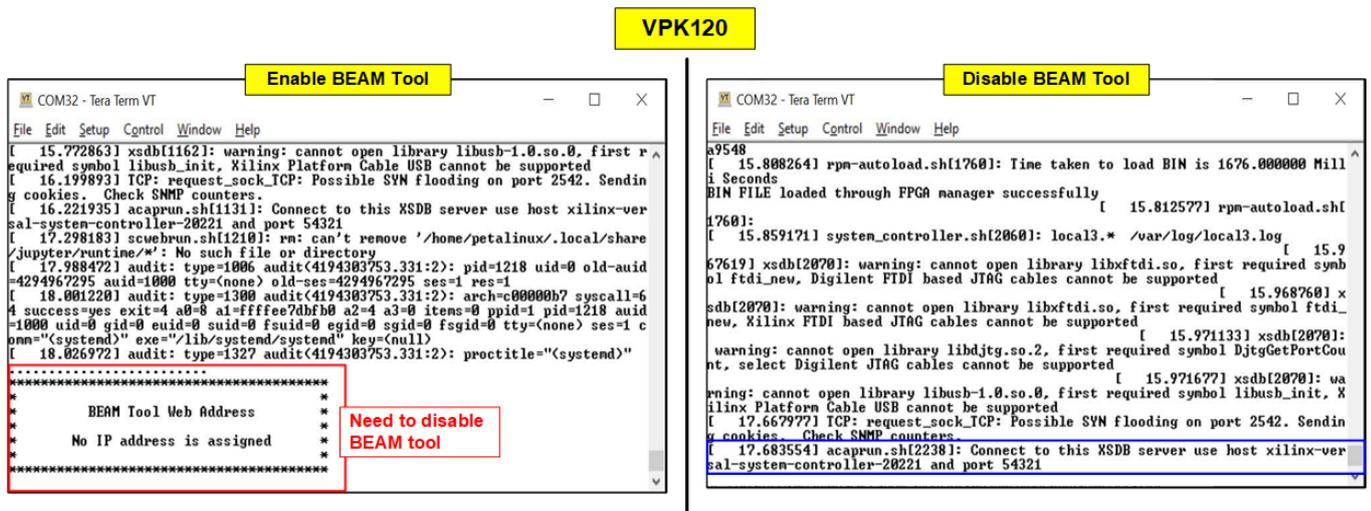

Figure 7 Boot-up Message for VPK120 Board
- If the message “Connect to this XSDb server use host Xilinx-versal-system-controller-20221 and port 54321” is displayed (as shown in the right window of Figure 7), proceed to step (6).
- If the message from the BEAM tool is displayed (as shown in the left window of Figure 7), continue to the next step to disable the BEAM tool and enable the user to run “Board User Interface” for clock configuration.